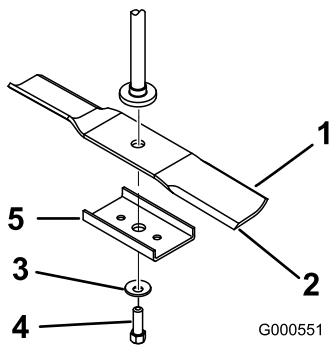

Figure 48
Hold the blade end using a rag or thickly-padded glove. Remove the blade bolt, curved washer, blade stiffener, and blade from the spindle shaft (Figure 48).
- Install the blade onto the spindle shaft (Figure 48).
- Install the blade stiffener, the curved washer (cupped side toward the blade) and the blade bolt (Figure 48).